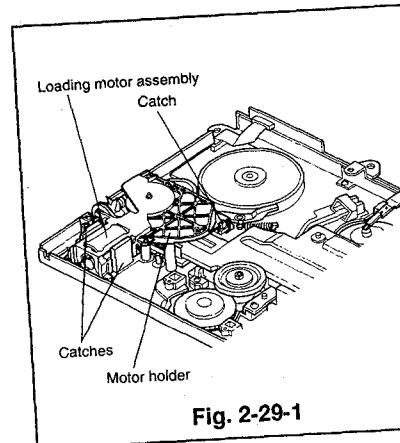
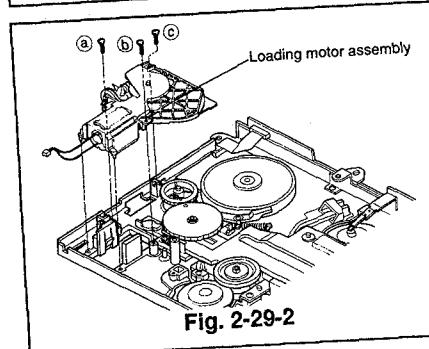

Fig. 2-29-1
Fig. 2-29-2
Remove the three screws(ⓐ,ⓑ and ⓒ) as shown in Fig. 2-29-2 and unfasten the three catches to remove the loading motor assembly (which holds the motor holder). (Refer to Fig. 2-29-1)
⑦ Install the loading motor assembly(which holds the motor holder) in the position shown in Fig. 2-29-2 and secure it with the three screws(ⓐ,ⓑ and ⓒ).
⑧ Install the loading motor belt. (Refer to Para. 2-28 for the installation method.)